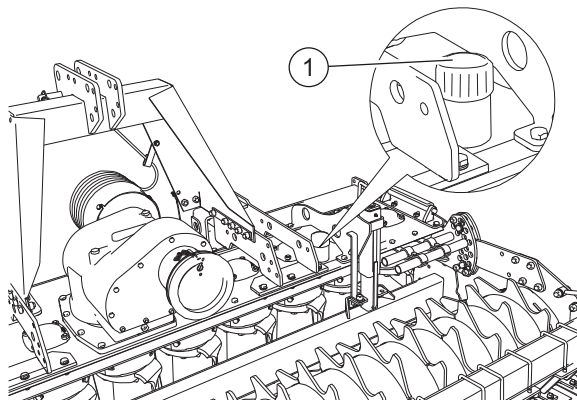

FIG. 37
Loosen the oil filler cap on the trough (1, “Fig. 37”).
- Loosen the oil filler cap (“Fig. 37”).
- Tighten the oil drain plug (3).